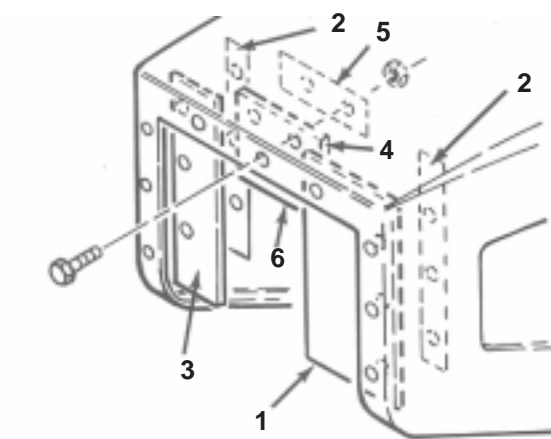

Figure 20
1. Secure wide shield to right inside lip of hopper opening with a long flat, (3) #10 – 24 X 1" Ig. screws and #10 – 24 flange nuts (Fig. 20).
2. Secure narrow shield to left inside lip of hopper opening with a long flat, (3) #10 – 24 X 1" Ig. screws and #10 – 24 flange nuts (Fig. 20).
3. Cut 1-1/2" of material off bottom edge of top shield. Secure top shield to upper inside lip of hopper opening with a short flat, (2) #10 – 24 X 1". Ig. screws and #10-24 flange nuts (Fig. 20). Use (2) mounting holes on left side of opening only.